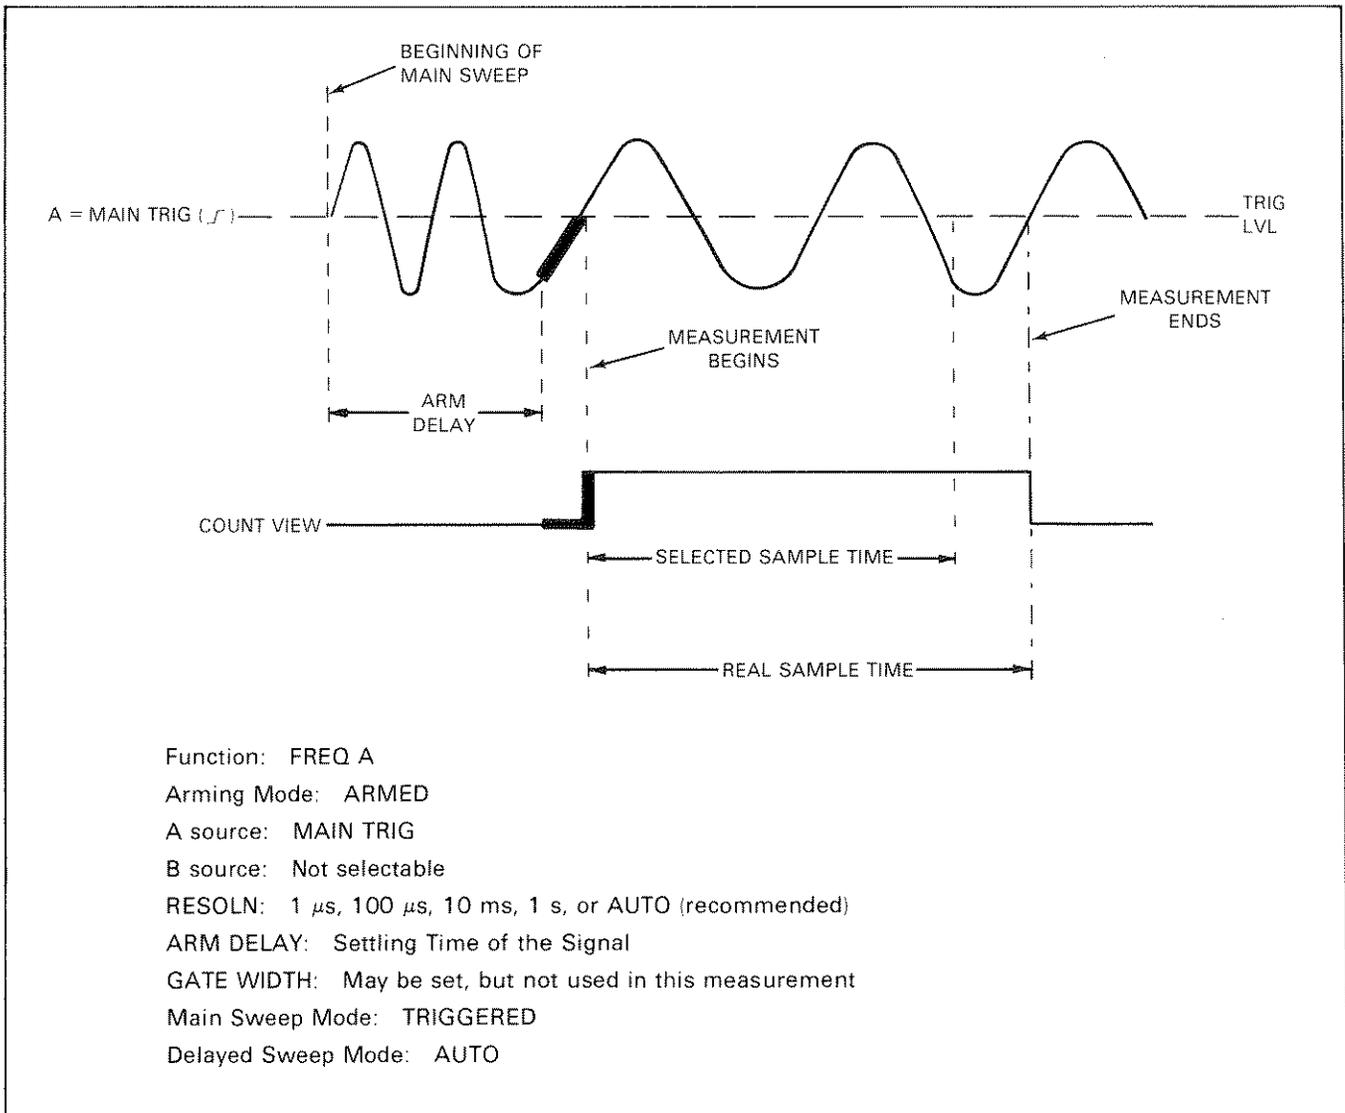

Figure 12. Frequency Measurement of a Startable Oscillator Using the ARMED Mode
**ARMED:** In the **ARMED** mode of operation each measurement is started synchronous with the 1980 sweep cycle. The measurement is armed at the beginning of the delayed sweep (**ARM DELAY**) and actually begins counting on the very next trigger occurrence of the **A SOURCE**. A typical application would be to measure the frequency of a startable oscillator where it is desired to hold off the measurement until a specified settling time is satisfied. Once the measurement begins, it will continue counting until the first trigger occurrence of the **A SOURCE** after the sample time has been satisfied. The complete measurement could involve several sweep cycles, in which case **COUNT** view would not be as shown in figure 12.